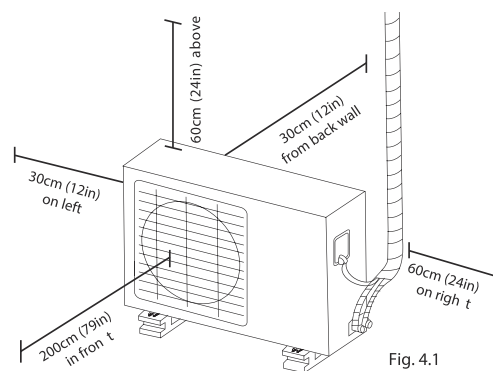

Fig. 4.1
- ☑ Meets all spatial requirements shown in Installation Space Requirements ( Fig. 4.1 )